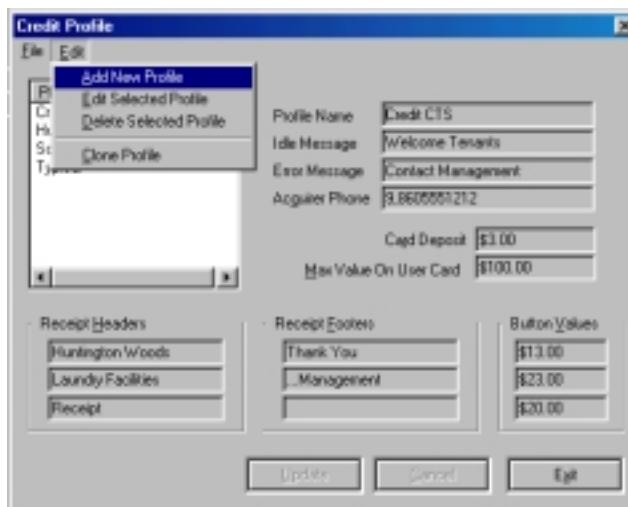

Figure 10.4 Adding CTS Profile
- Select Add New Profile from the edit drop-down menu (Figure 10.4).